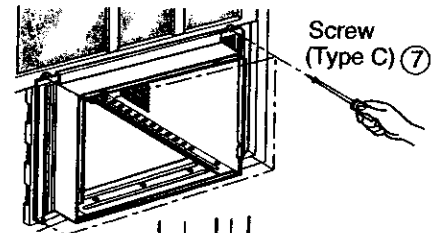

Figure 91
13. Attach each side curtain to the window sash using TYPE C screws ⑦ (See Figure 91)